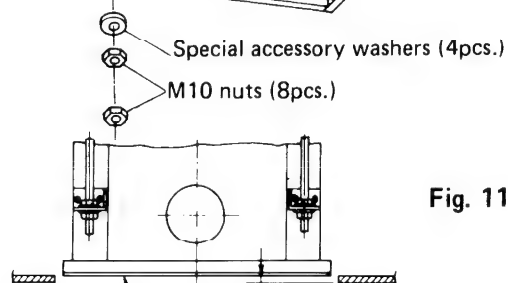

Fig. 11
- g) Adjust the suspension height so that the distance between the bottom face of the flange of the indoor unit and the bottom face of the ceiling material is approx. 3/4". Fig. 11 Also, suspend the unit horizontally to prevent leakage of drainage or other trouble.